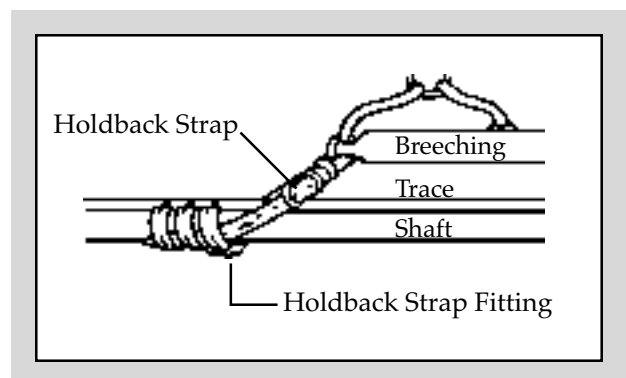

Figure 27. Closeup of Holdback Strap on the Shaft.
- If breaching is used, connect to the shafts with straps passing through the shaft "D" on the underside of the shaft. Take the necessary turns around the shaft and pass the tongue of the strap under the wraps before buckling (see Figure 27).